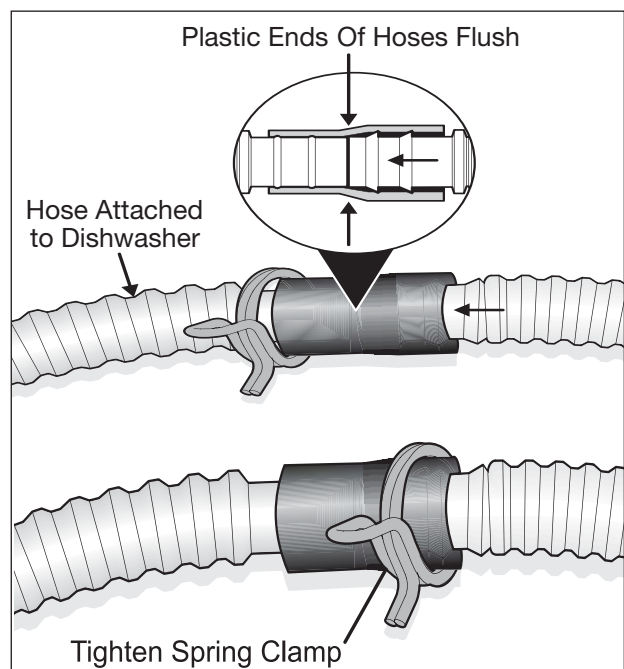

Figure 2-6. Connecting Drain Hose
3. Take the plastic side of the drain hose and insert it into the hose that is already attached to the dishwasher make sure hose ends are flush against each other. (See Figure 2-6)